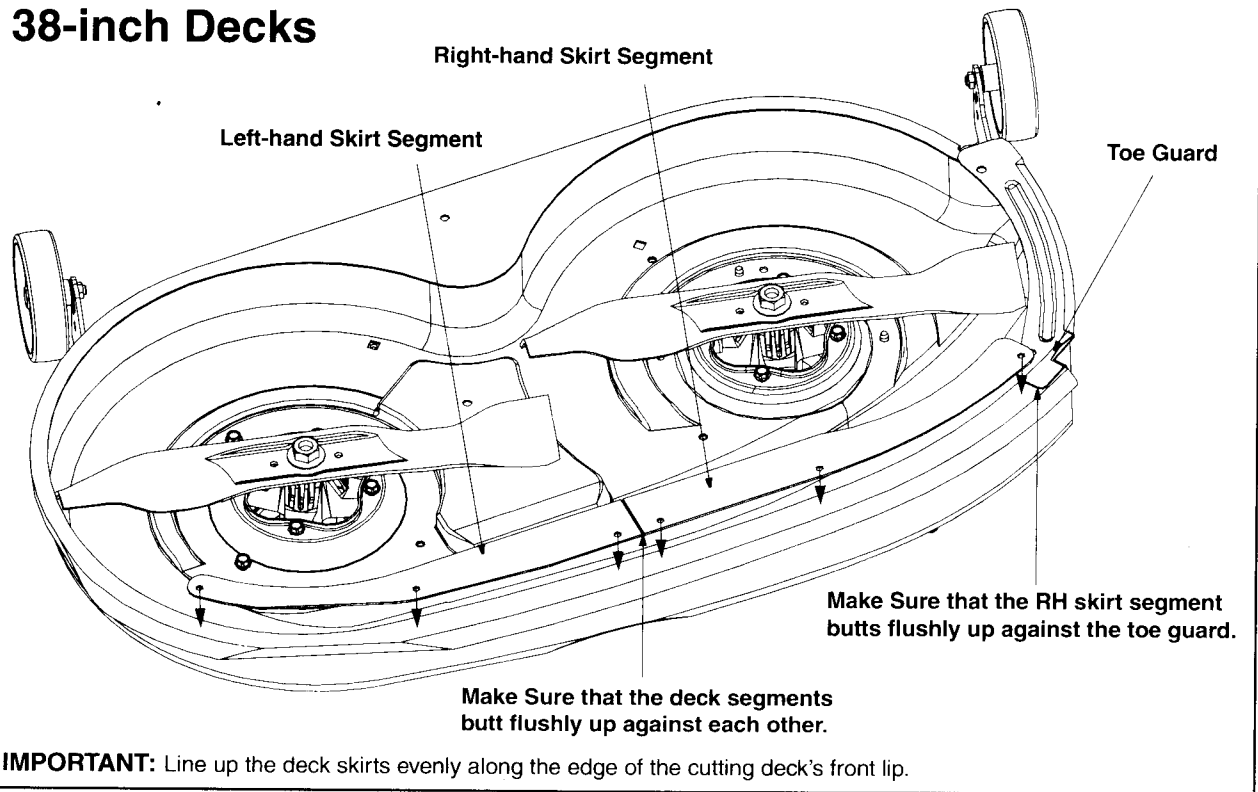

Figure 5
4. Position the deck skirt segments over the front edge of the cutting deck as illustrated in Figure 5. Use locking pliers or C-clamps to secure the skirt segments in place.